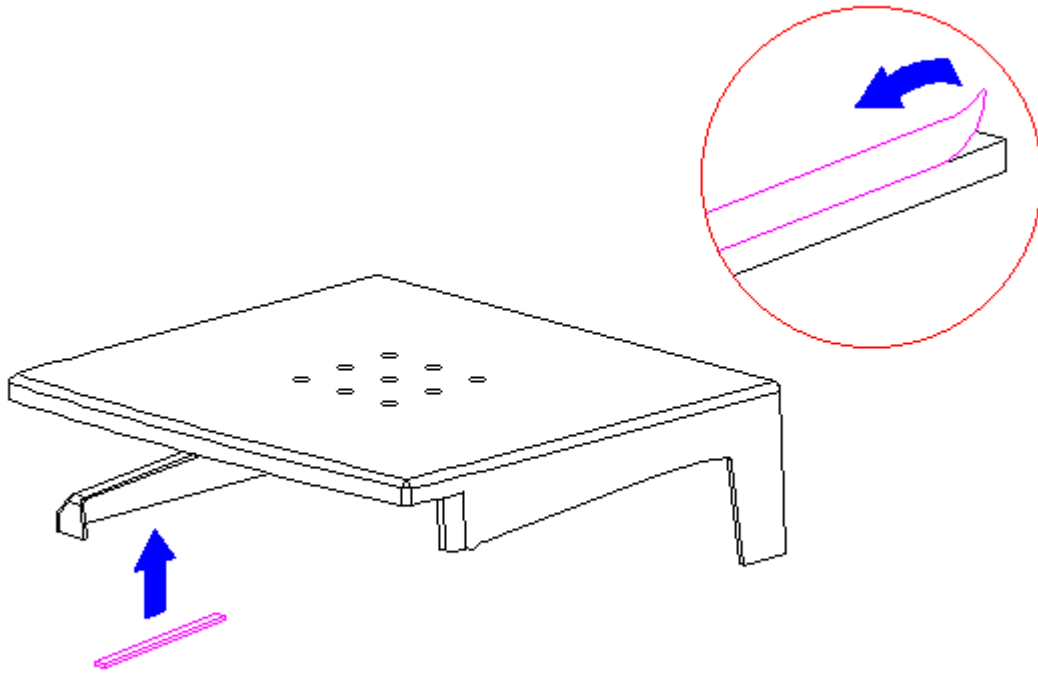

Figure 3-198. Replacing the Monitor Support Cover Foot (All Models)
2. Remove the top layer from the foot to expose the adhesive strip (Figure 3-198).
3. Position the foot adhesive-side down on the exposed metal and press (Figure 3-198).